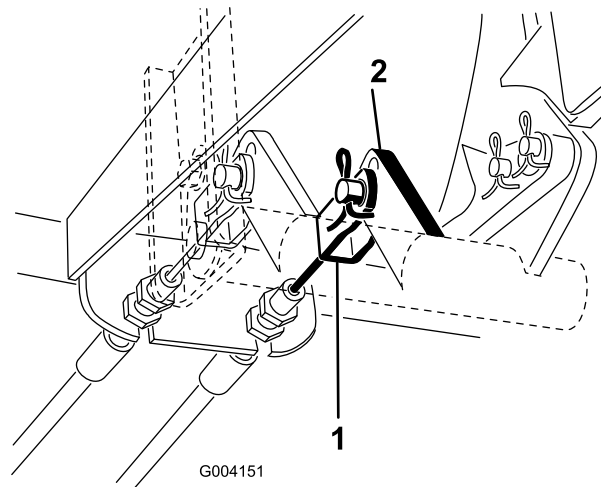

Figure 67
2. Disconnect the left brake cable from the brake pedal (Figure 67) and set the parking brake.